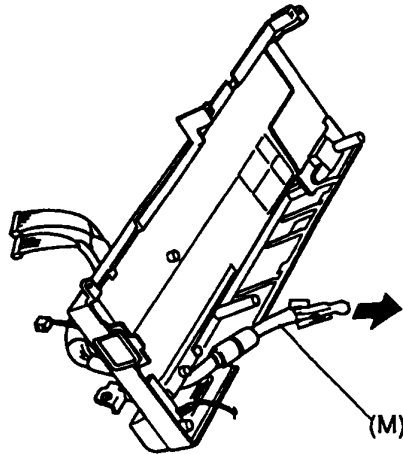

Figure 4-32 Removing the display cables
8. Slide the display cables (M) out of the top cover to remove them from the top cover (Figure 4-32).
3. Route the display cables through the top cover (Figure 4-32).